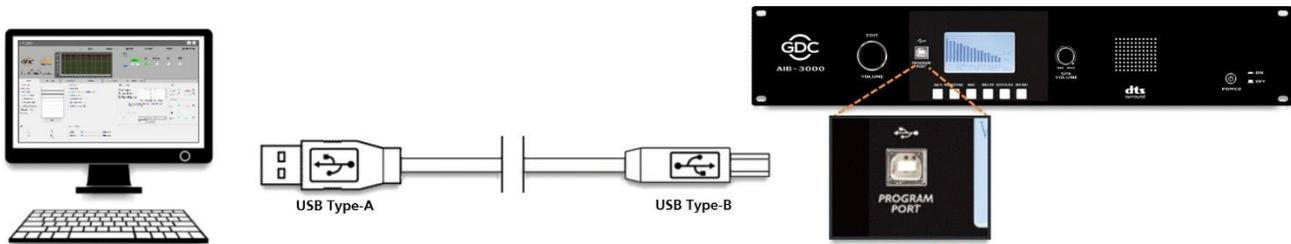

Figure 20: Connect to PC Tool using USB
- Method 1: via USB** → Using this method; the PC/Laptop which is running the PC Tool software needs to be directly connected to the AIB-3000 device using a USB 2.0 Type-A Male to Type-B Male cable (*provided as part of standard AIB-3000 packaging*). Connect the Type-A end of the USB cable to the USB port on the PC/Laptop and connect the Type-B end to the USB port [② @ Front Panel] of the AIB-3000 unit, as illustrated in **Figure 20**.